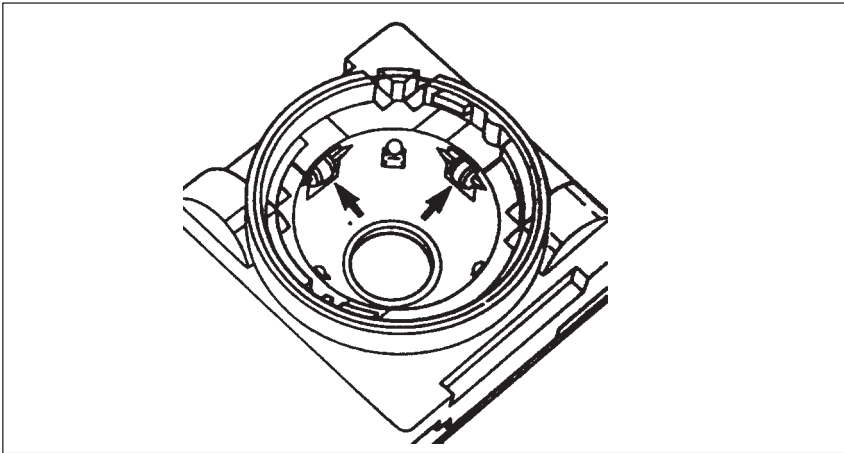

Figure 2-13 Cleaning the Rollers
6. Clean the rollers (Figure 2-13).